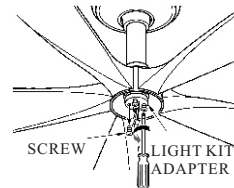

FIG.12
1. Remove 1 of 3 screws on fan adapter and loosen the other 2 screws.(see fig.12)